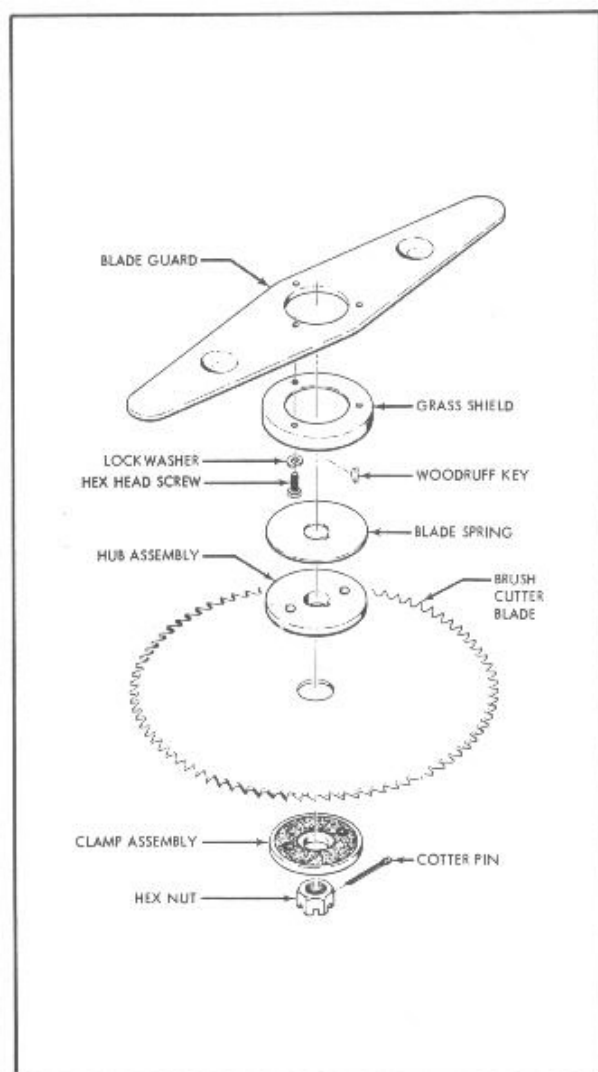

Figure 12. Installation of Brush Cutter Kit 57610
1. Mount the Blade Guard and the Grass Shield on the gear housing drive shaft with three 10-24 x 5/8-inch long screws (P/N 102388) and three No. 10 lockwashers (P/N 103174). (See Figure 12.)